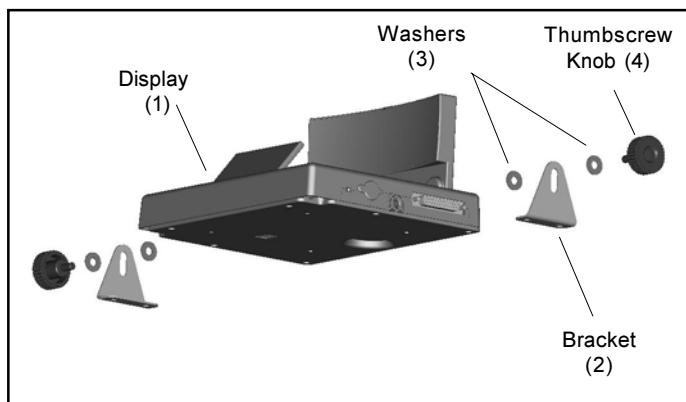

Figure 13 Knob and Washer Assembly
- Slide one of the washers(3) onto one of the threaded knobs(4).
- Hold one washer(3) between the display(1) and the mounting bracket(2) while threading the washer/knob assembly from the outside of the bracket. Refer to Figure 13.